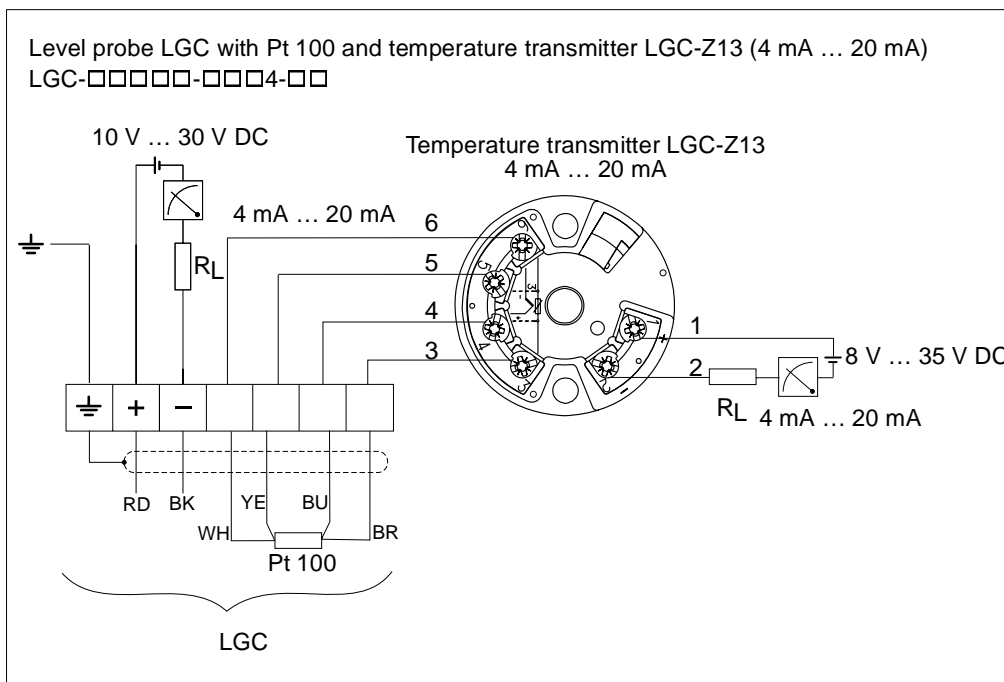

figure 8: Electrical connection: LGC with Pt 100 and temperature transmitter LGC-Z13
- Connect device acc. to figures 8 and 9. A polarity protection is integrated in the level probe LGC and the temperature transmitter LGC-Z13. Changing the polarities will not destroy the devices.
- Is the device connected as shown in figures 8 and 9?